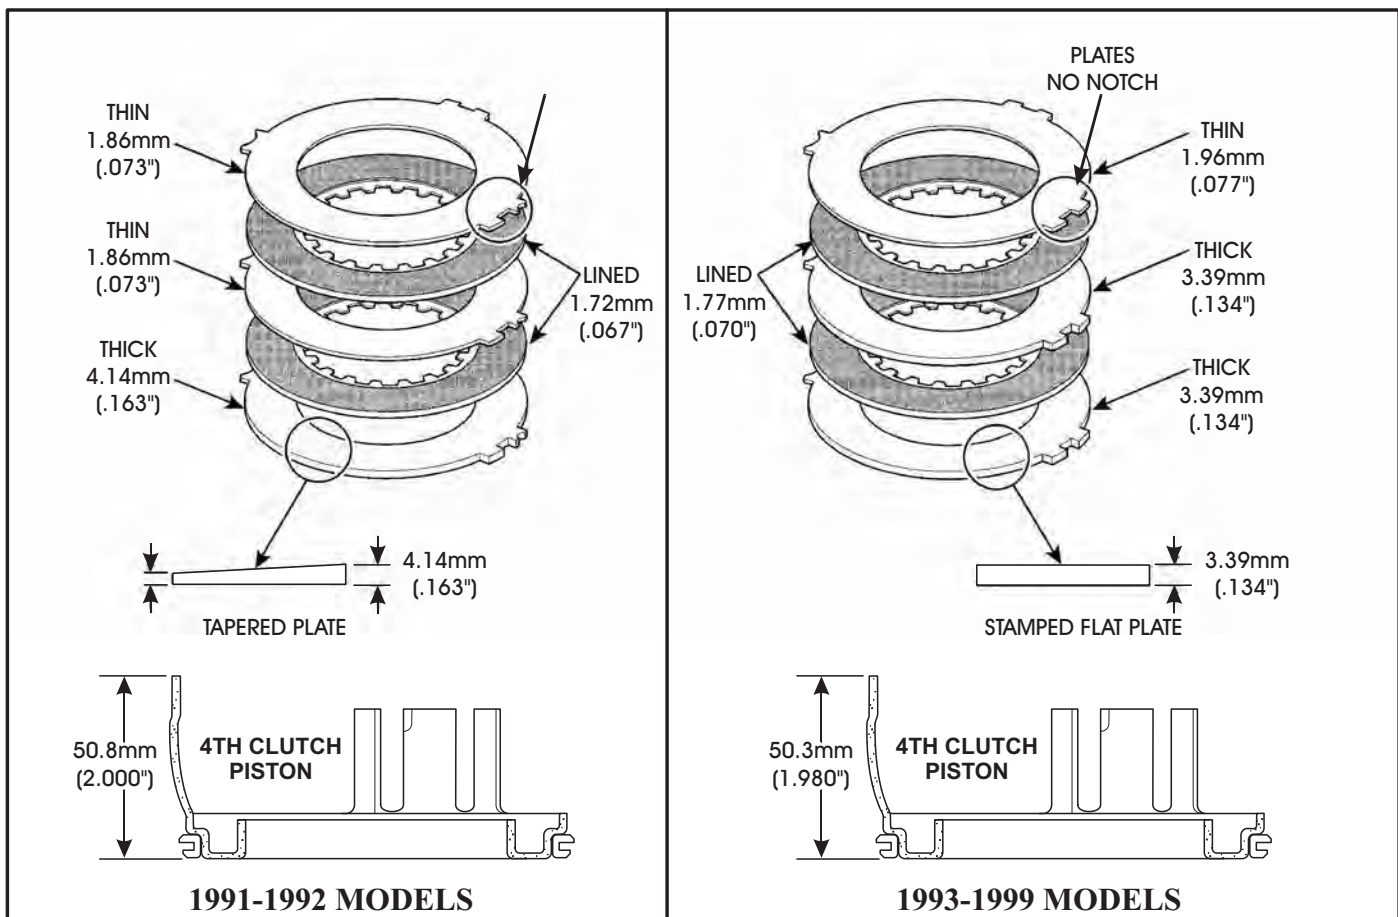

Figure 138
- Note: Refer to Figure 138 for changes.**
The 4th clutch plates, both lined and steel plates, changed in the 1993 model year. All of the dimensional changes are illustrated in Figure 138, and this includes the 4th clutch piston assembly.
Caution: Whenever servicing a 4T60-E transaxle, compare and verify all of the components listed above that are removed, are identical to the new replacement components before reinstalling, as they are NOT interchangeable. (See Figure 138).